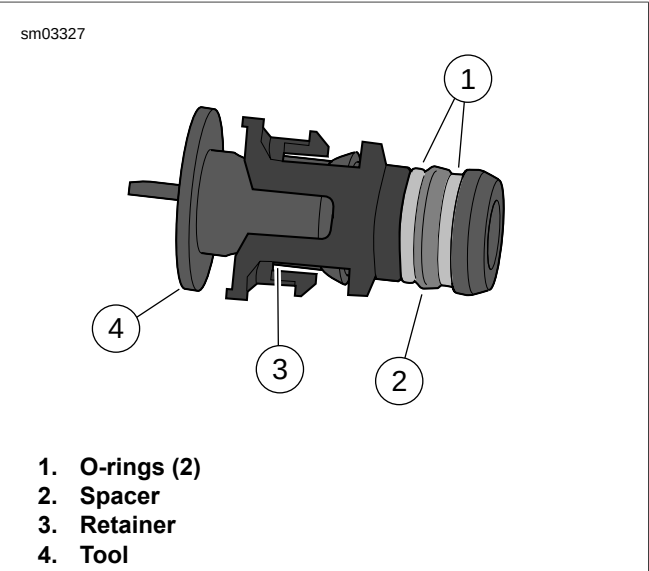

Figure 3-178. O-rings and Spacer
- See Figure 3-178. O-rings (1) and spacer (2) are not sold separately. If either O-rings or spacer are damaged, oil line retainer assembly must be replaced.
1. Insert OIL LINE O-RING TOOL (Part No. HD-44455)(4) inside retainer (3).
3. Insert tool (4) through **new** retainer (3).